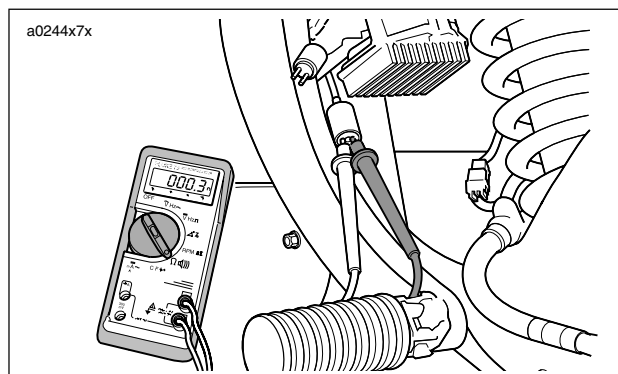

Figure 7-50. Check for Stator Resistance
4. See Figure 7-50. Remove ground lead. Insert lead into the remaining stator socket.